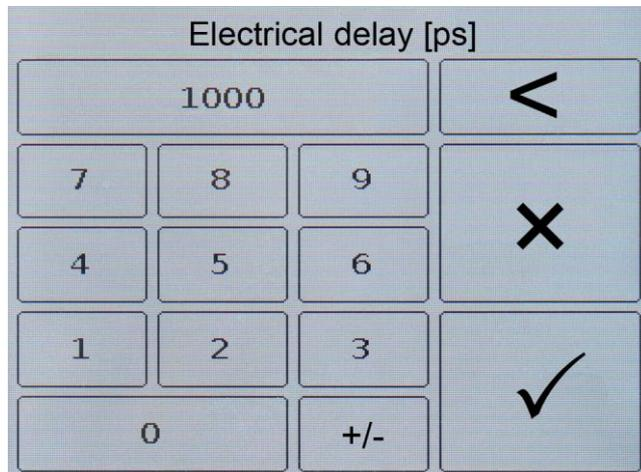

Figure 9.25 – Entering numeric value compensation electric cable length
9.9.4. Type numerical time a compensation value (T) in picoseconds as calculated from the formula in box Electrical delay (Figure 9.25).
9.9.5. Enter a numeric time compensation value and press \checkmark or **Enter**. To delete erroneous or previously entered values, press \times or **Del**. To refuse to enter a value, click $<$ or **Cancel**. In our example, in figure 9.25, a numerical value for cable length compensation is entered.